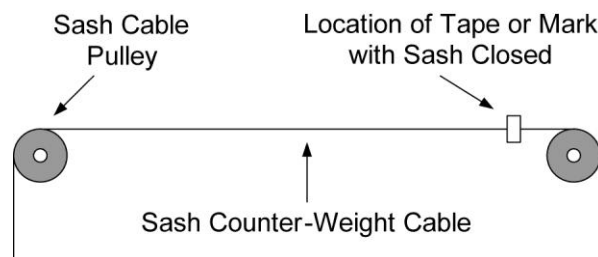

Figure 3: Mark the Sash Counter-Weight Cable
3. Mark the sash counter-weight cable with a piece of tape or marker (Figure 3).